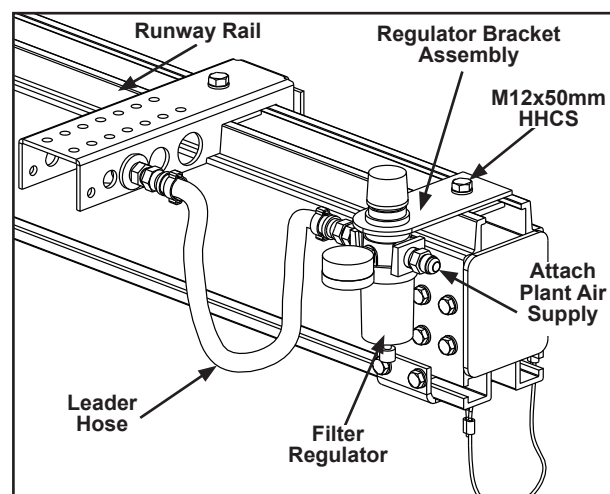

Figure 3-117
- a. Start at runway rail end closest to plant air supply. Loosen M12 HHCS and slide regulator bracket on to runway rail top channel. See Figure 3-117.
- d. Attach plant air supply to "in" port on filter regulator. Use at least one (12) in (305 mm) of hose between regulator and plant hard pipe.